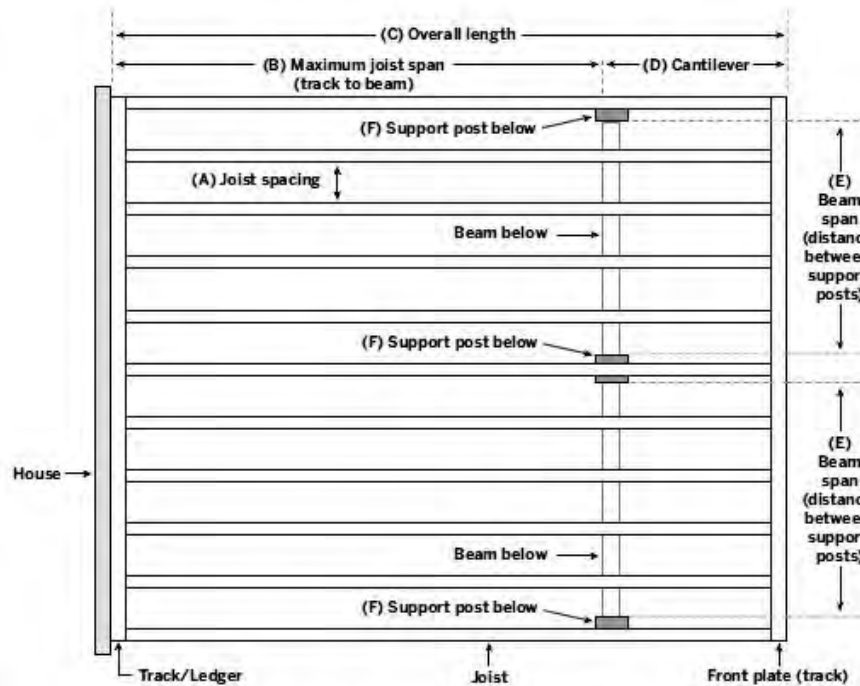

FIGURE 1 – SINGLE BEAM PLAN
4.1 Allowable maximum spans for 1-5/8-inch joists, single box beams and double box beams are given in Tables 1 thru 6 with respect to joist spacing of 12 or 16 inches. See Figures 1 and 2 for definition of joist span, cantilever length and box beam span.